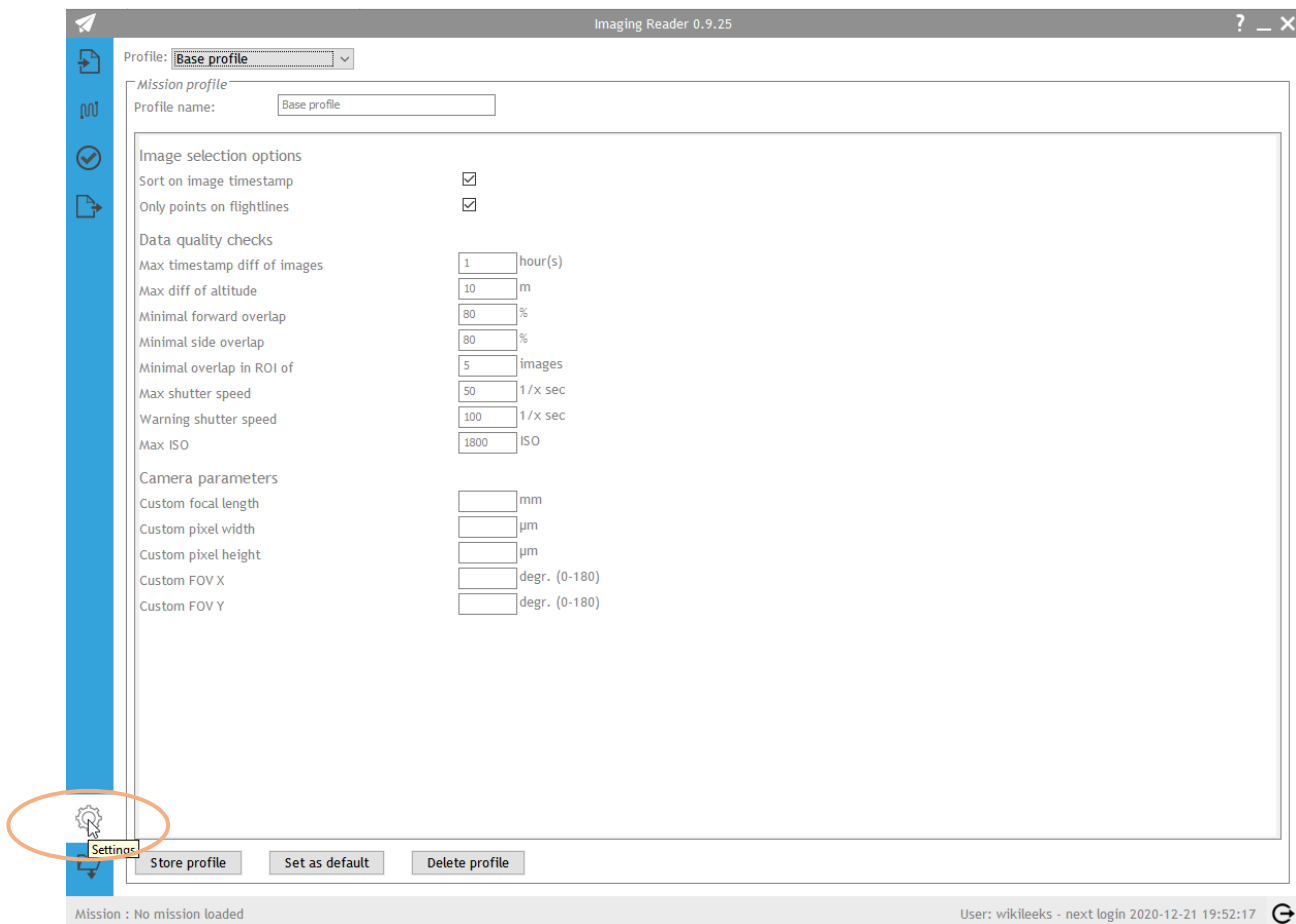

Figure 57: Entering the mission profile settings page
- through the mission profile settings page (Figure 57).